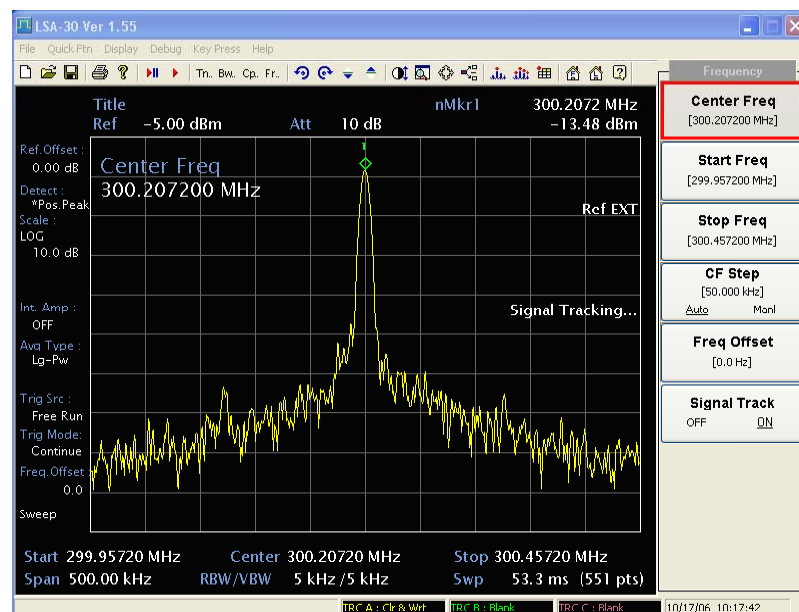

Fig. B-10 Using signal tracking to track a drifting signal
- 7 Tune the frequency of the signal generator. Notice that the center frequency of the analyzer changes in < 10 kHz increments, centering the signal with each increment; see Fig. B-10.